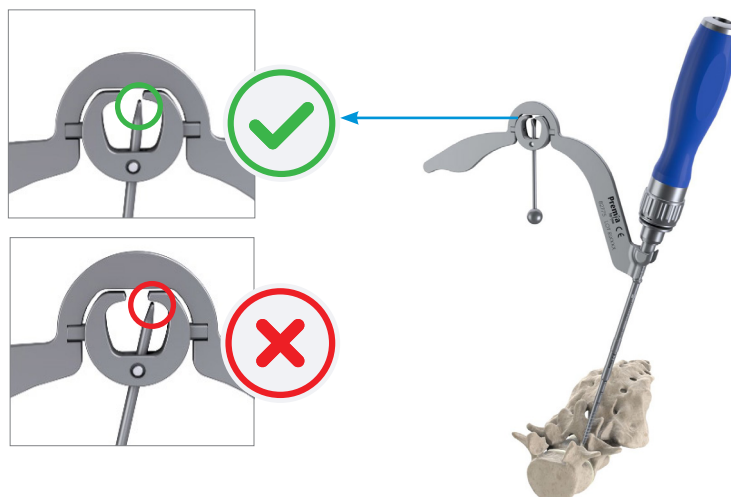

Figure 7: Place the Tap in the pilot hole and advance
- v. Attach the Tap to a Ratchet Straight or T-Handle. Pull the Handle's locking ring upward and slide it onto the 1/4" connector of the Tap shaft. Verify proper attachment by slightly pulling the Tap shaft in the opposite direction to confirm that the Tap is secured to the Handle. Adjust the ratchet direction by shifting the ring clockwise for standard motion or counter clockwise for ratchet motion. Place the Tap in the pilot hole and advance into the pedicle bone. Be sure to confirm proper trajectory with the Pendulum (Figure 7).